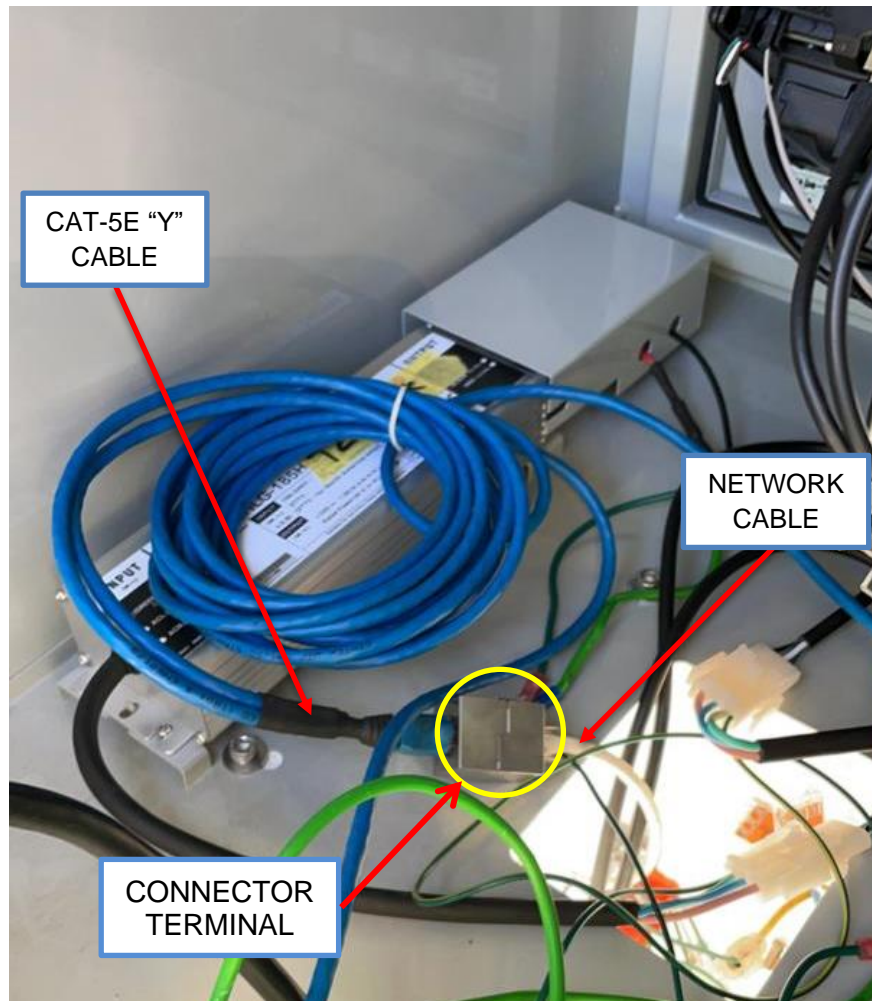

Fig 3.2 – Plug in the Network cable and Cat-5e “Y” cable to connector.
- a. Tidy up the Cat-5e cable and place it inside the pedestal main case. (Fig 3.2)